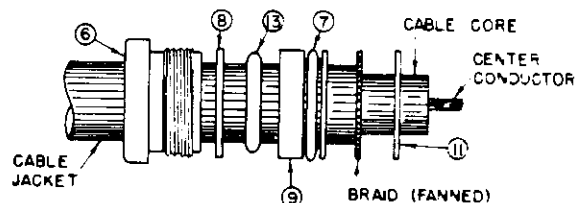

Figure 3
- b. Fan out braid as shown in figure 3 and pass washer, (piece 11), over core until it rests flatly against braid.